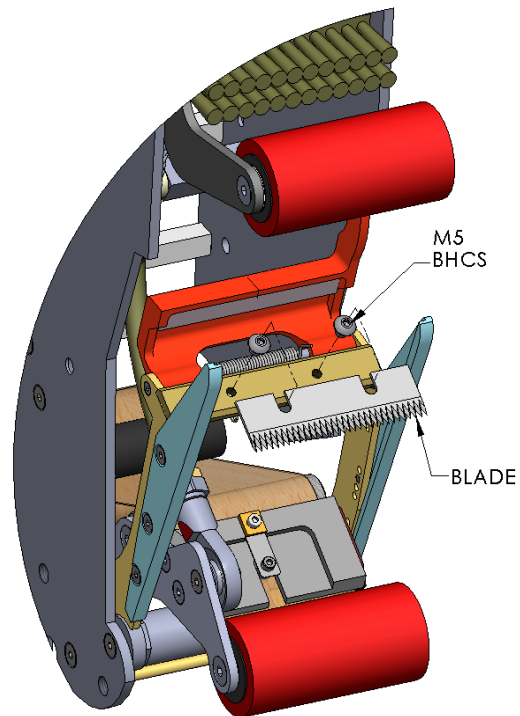

Figure 10-14
3. Re-install the cutter blade as shown in Figure 10-14